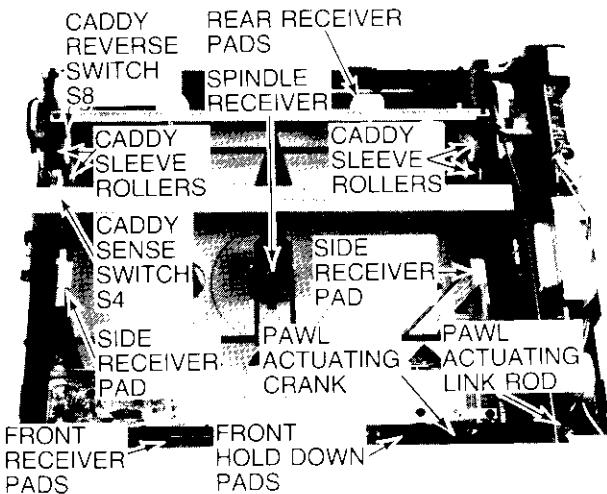

Fig. 5—Mechanism Identification
When the caddy sense switch, S4, is activated (closed), power is applied to the function motor. The caddy (sleeve) rollers begin to rotate, they grasp the caddy (sleeve) pulling it into the player. The caddy (sleeve) then activates (closes) the caddy reverse switch, S8. As caddy (sleeve) insertion nears completion the rear receiver pads are lowered, the caddy (sleeve) lock defeat tabs enter the end of the caddy (sleeve) on either side unlocking the spine tabs which hold the spine and Video Disc captive in the caddy (sleeve). At the same time the spine latch tabs, are pushed up and over the end of the spine and drop into their latching position holding the spine and Video Disc captive in the player. The spine sense switch, S5, is also activated (closed) at this time and the side indicator switch, S6, is either activated (closed) or left "off" (open) depending upon which side of the disc is being played. The function motor stops for approximately one (1) second before it begins running in the reverse mode (See Figs. 5 & 6).
As the caddy (sleeve), now empty, begins its ejection travel from the player—the caddy (sleeve) lock defeat tabs (spring loaded) pop up above the spine to the position necessary for performing their function during the "unload" process. The rear receiver pads rotate up to their normal position to support the disc and spine. The caddy (sleeve) reverse switch, S8, is deactivated (opens), however the function motor continues to run. When the caddy (sleeve) is released by the caddy rollers it must then be manually removed from the player. As the caddy (sleeve) is being manually removed from the player—the caddy sense switch, S4, is deactivated (opens), the side receiver pads (spring loaded) raise up to support the spine, the front receiver pads (spring loaded) raise and the spine holddown pads (also spring loaded) lower to support the disc and spine. The last item to be released is the Pawl Actuating Crank, which is used to prevent the function gear actuating pawl from being tripped during the time a caddy (sleeve) is in the player (See Figs. 5 & 6).